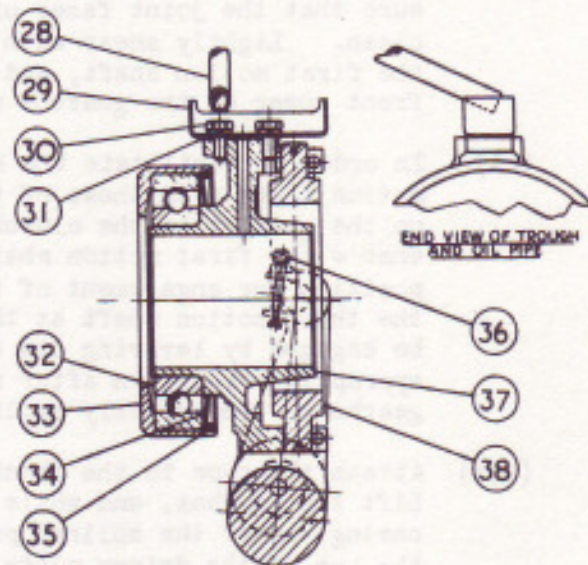

FIG. 6. SECTION THROUGH CLUTCH RELEASE BEARING AND TRUNNION.
- (vi) Refit the bolt (27), tighten up the nut and centre punch the bolt in two places to lock the nut. Should the friction plate (24) have been removed, then tighten up the three nuts and lock by centre punching.
- (vii) Make sure that the oil feed pipe (28, Fig.6) to the oil trough of the clutch trunnion is correctly positioned, and check the rate of oil flow to the clutch release bearing in accordance with the instructions given in paragraph 3 of Service Bulletin No.BB-32 Section F.
- (i) Remove the two split pins (36, Fig.6) securing clutch trunnion assembly to the clutch operating shaft and remove the trunnion complete.
- (ii) Using an aluminium drift, remove the trunnion (37) from the ball bearing (32).
- (iii) Remove the spring ring (35) from the housing (33) and then remove the oil retaining ring (34).